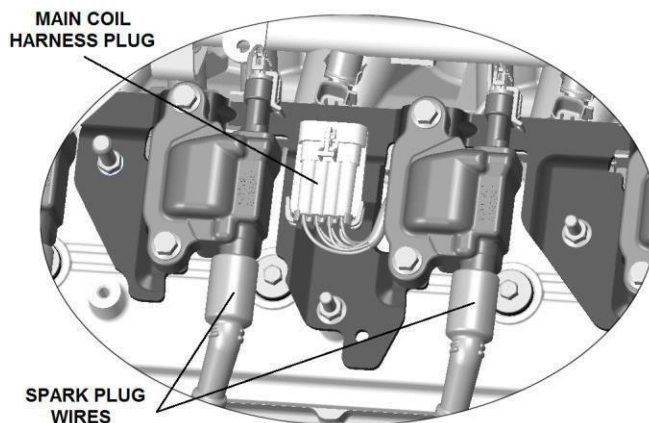

Figure 2
5. Disconnect the main coil harness plug as shown in **Figure 2** below.